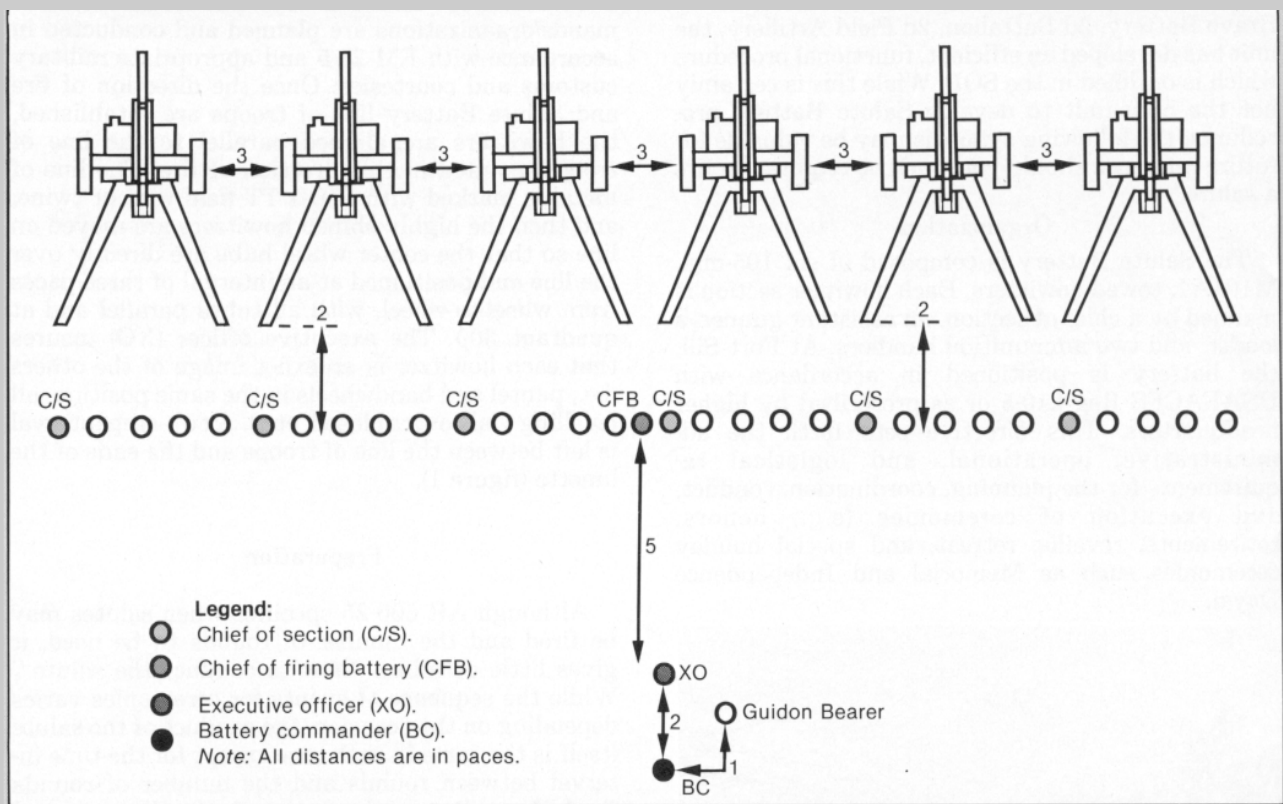

Figure 1.
Ceremonies directed by subordinate commands/organizations are planned and conducted in accordance with FM 22-5 and appropriate military customs and courtesies. Once the direction of fire and Salute Battery line of troops are established, the howitzers are aligned parallel to the line of troops, pointed in the direction of fire. The line of metal is marked with WD-1/TT field wire or twine, and then the highly shined howitzers are moved on line so that the center wheel hubs are directly over the line and positioned at an interval of three paces from wheel-to-wheel, with all tubes parallel and at quadrant 300. The executive officer (XO) insures that each howitzer is an exact image of the others (i.e., pantel and handwheels in the same position, all levelling vial covers closed, etc.). A two-step interval is left between the line of troops and the ends of the lunette (figure 1).
execute a right face. The CFB executes an about face and marches to his position between sections 3 and 4 and executes an about face (figure 1). When the XO has ascertained that everyone is in position, he lowers his right arm and executes an about face. *Note:* The XO must always be mindful that the lowering of his right arm at the incorrect time could cause a round to be fired out of sequence.) At this time, the BC commands either "PRESENT ARMS" or "PARADE REST" depending on the type of ceremony (i.e., a ceremony with ruffles and flourishes requires a command of "PRESENT ARMS"). He then does an about face and executes the command he had just given. If the ceremony is not over, the Salute Battery executes any other commands given by the commander of troops.